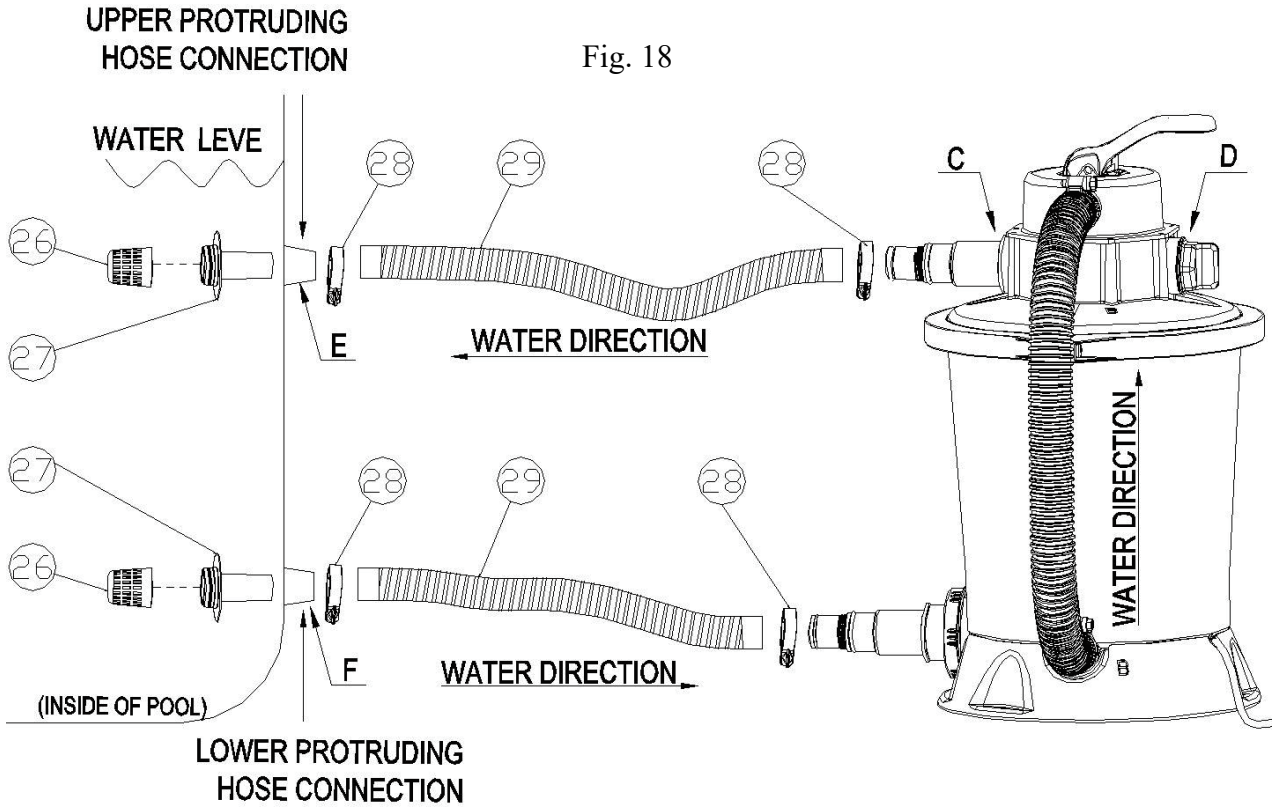

Fig. 18
them together in C position, connect the other end of the tube to the water pool E position, and lock it with the hose clamp. (See Fig. 18)
6. Install the plug (3) on D position. (See Fig. 18)